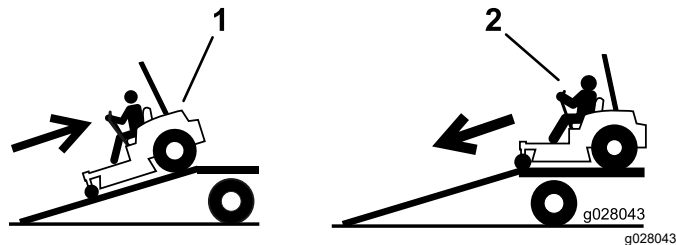

Figure 31
4. Back the machine up the ramp (Figure 31).
2. Drive the machine forward down the ramp (Figure 31).